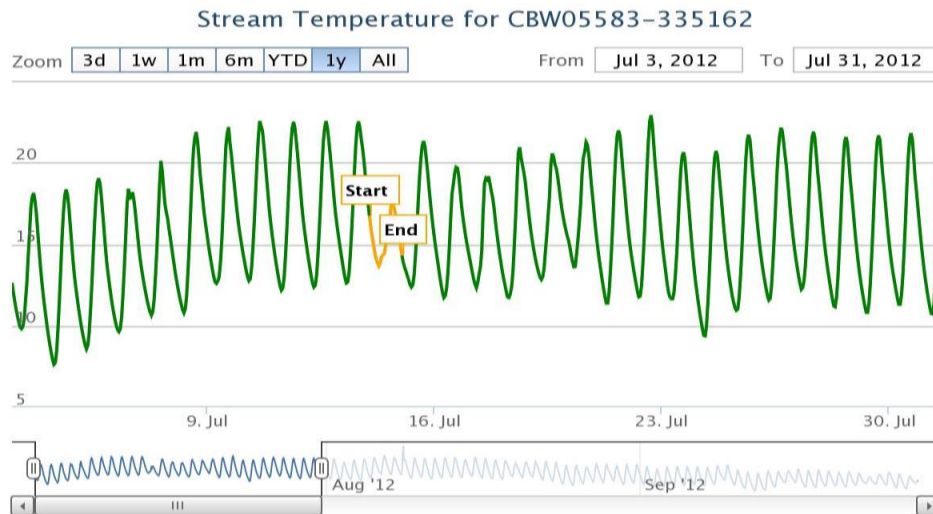

Figure 22. Example of a temperature anomaly, e.g., an increase in streamflow and decrease in air temperature, caused by a sudden / extreme weather event.
- Not all suspect data is erroneous. Sometimes sudden weather events, like temperature drops or rainstorms may result in suspicious stream temperature data (Figure 22).